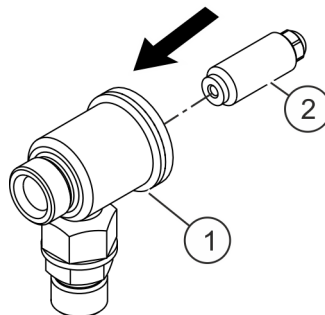

Fig. 23: Screw the seal screw into the head piece
2. ➔ Screw the seal screw (Fig. 23/2) into the head piece (Fig. 23/1).